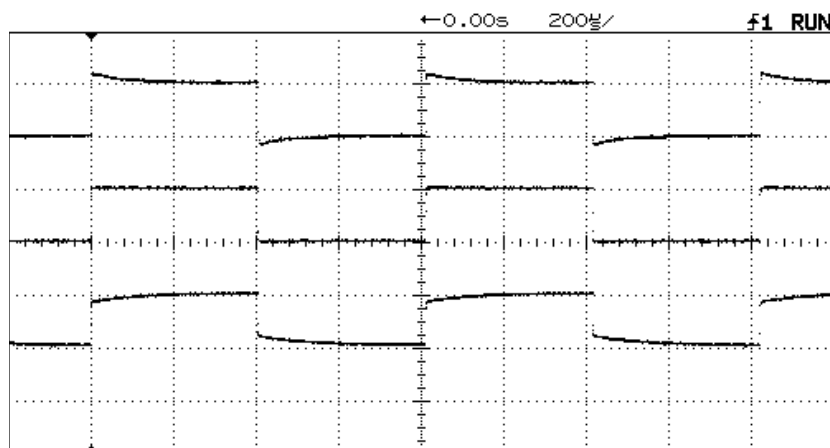

Fig. 1. Upper: Overcompensated probe. Center: Properly compensated probe. Lower: Undercompensated probe.
2. Compare your displayed waveform with Fig. 1, which shows the effects of misadjustment of the probe. Verify the probe compensation by checking that the square waves have no visible overshoot, and no visible tilt. If necessary, ask the lab instructor for an adjusting tool and set the probe compensation. This checking procedure should be done at the beginning of every lab, although the probe compensation is expected to be OK if they have not been mishandled.
2. Connect channel 1 of the DSO to the FG output. Display the waveform using a vertical sensitivity of 1 V/div, horizontal sweep rate of 50 μs/div, and the baseline in the center of the screen. The result should appear exactly like Fig. 1 in the sample report. (Hint: If the amplitude is off by a factor of 2, re-read the section of this manual describing the procedure for setting the FG output termination.)
5. Import this image into "Write," using it to replace the existing Fig. 1. The Windows clipboard is the easiest way to do this, although you could also save the image as a .PCX file as an intermediate step. (In future lab experiments, you will want to save DSO waveforms as .PCX or .TIF image files on your floppy disk for later use with your favorite word processor.) These images can be easily annotated (but do it sparingly) by Windows "Paintbrush."